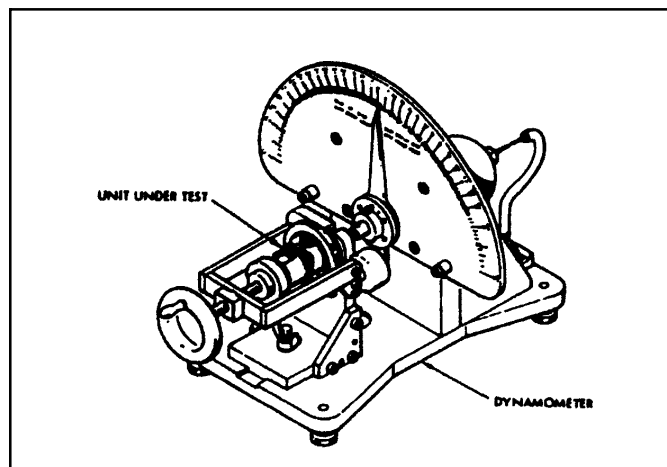

Figure 3-1. Using Motor Test Dynamometer
e. Connect motor to 253724 Motor Test Dynamometer (refer to NAVWEPS 17-15BAB-17 for operating instructions). Using dynamometer, measure stalled load current and torque while applying single-phase, 115 volts at 400 Hz between green and white motor leads. Torque must be 3.2 inch ounce, and current must be 0.60 ampere maximum. Repeat test with power applied to red and white motor leads: torque must be 3.2 inch ounce, and current must be 0.60 ampere maximum. (See figure 3-1.)
d. Connect motor to 253724 Motor Test Dynamometer (refer to NAVWEPS 17-15BAB-17 for operating instructions). Using dynamometer, measure stalled load current and torque while applying single-phase, 115 volts at 400 Hz between black and white motor leads. Torque must be 3.2 inch ounce, and current must be 0.60 ampere maximum. Repeat test with power applied to red and white motor leads; torque must be 3.2 inch ounce and current must be 0.60 ampere maximum. (See figure 3-1.)